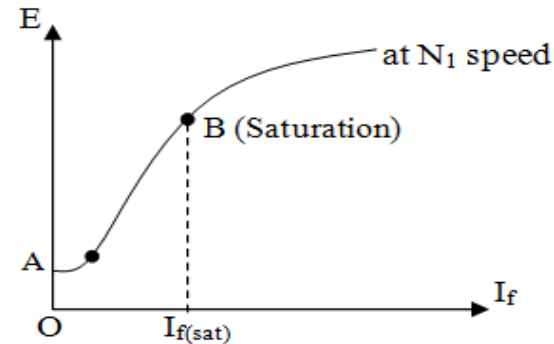

Fig.3.23 OCC curve of DC generator
The field winding is disconnected temporarily for test purpose. The armature of the generator is rotated at a constant rated speed by some prime mover and the magnitudes of emf induced at different values of field current are measured. The resulting curve is shown in Fig.3.23.
When the field current is zero, there will be some residual flux in the air gap of the machine. Therefore, some emf (OA) will induce across the armature even the field current is zero. When in the field current increases, the magnetic flux (ϕ) increases proportionately and the emf (E) increases accordingly up the point 'B'. The point 'B' of the saturation point corresponding to field current ' I_{fsat} '. If the field current is further increased above I_{fsat} , the magnetic flux will not increase proportionately. The magnetic flux will increase by very small value with compare to increase in field current and accordingly the emf induce (E) will also increase by very small amount as shown in Fig.3.23. Fig.3.23 shows the OCC curve at rated speed N_1 . The OCC curves at different speeds are shown in Fig.3.24.